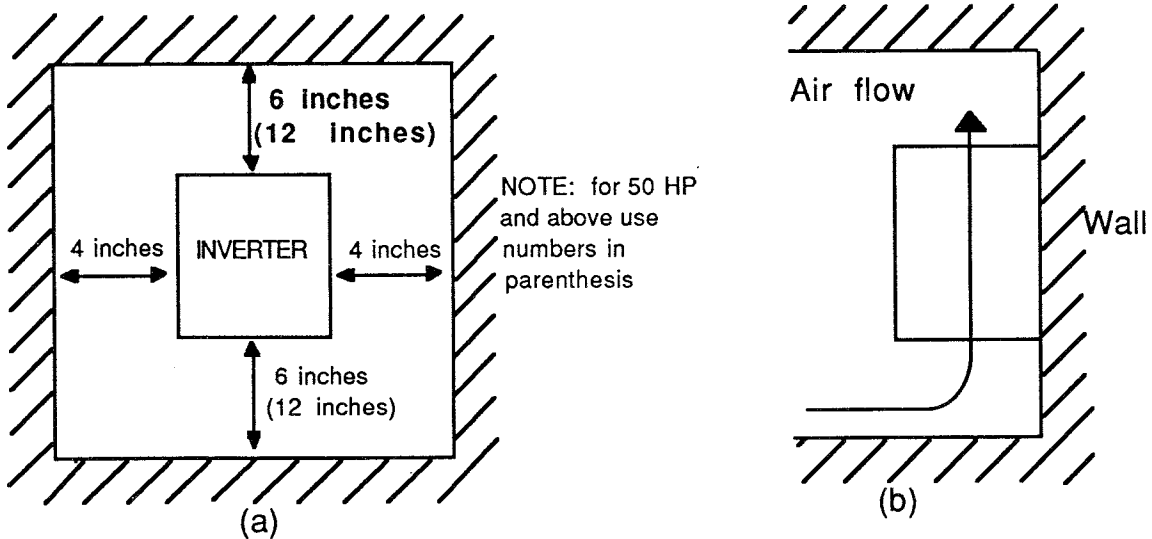

Fig. 2
- 5) Refer to Fig.2 for minimum clearances.